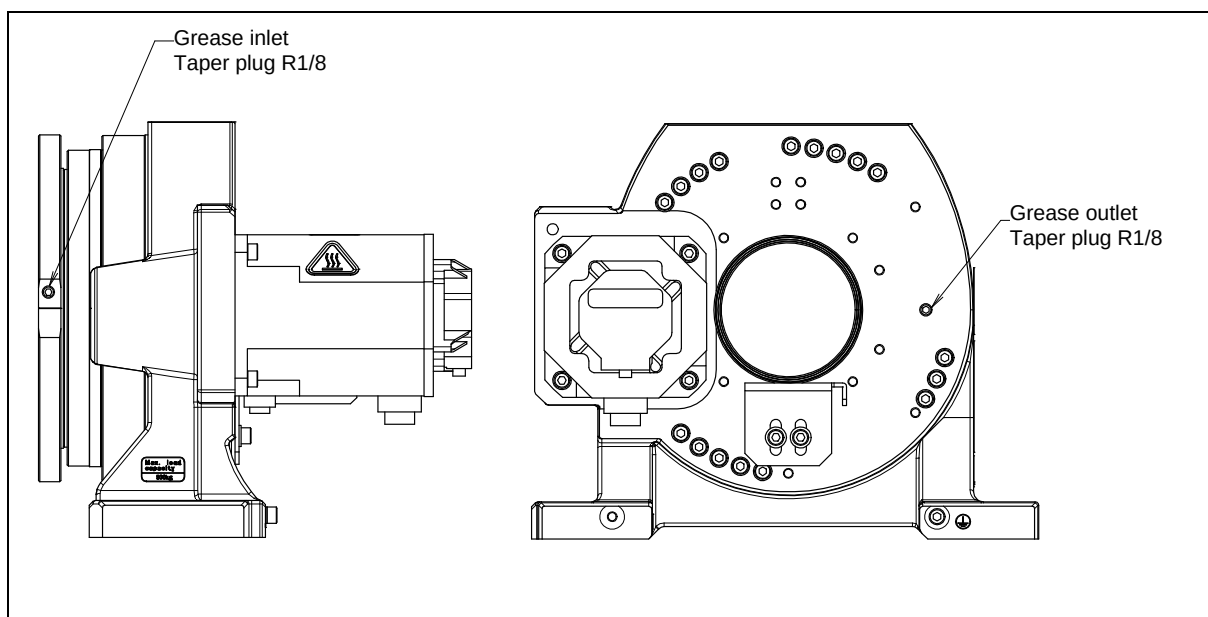

Fig. 7.3.2 (a) Greasing point of J2/J3-axis reducer
- 2 Remove the bolt and the seal washer from grease outlet. (Fig.7.3.2 (a))